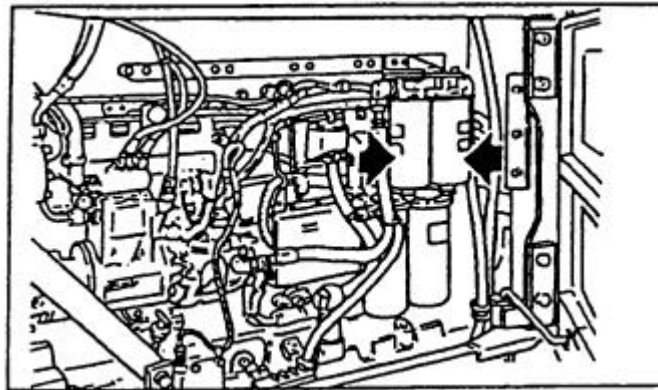

Fig. 5.40. Fuel Filters
The fuel filters are located as shown in Fig. 5.40.
4. Clean the filter gasket surfaces of the filter header for each filter (Fig. 5.40). Replace the filter O-rings.